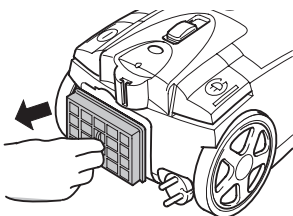

Fig. 26
3. Remove the exhaust filter (Fig. 26).